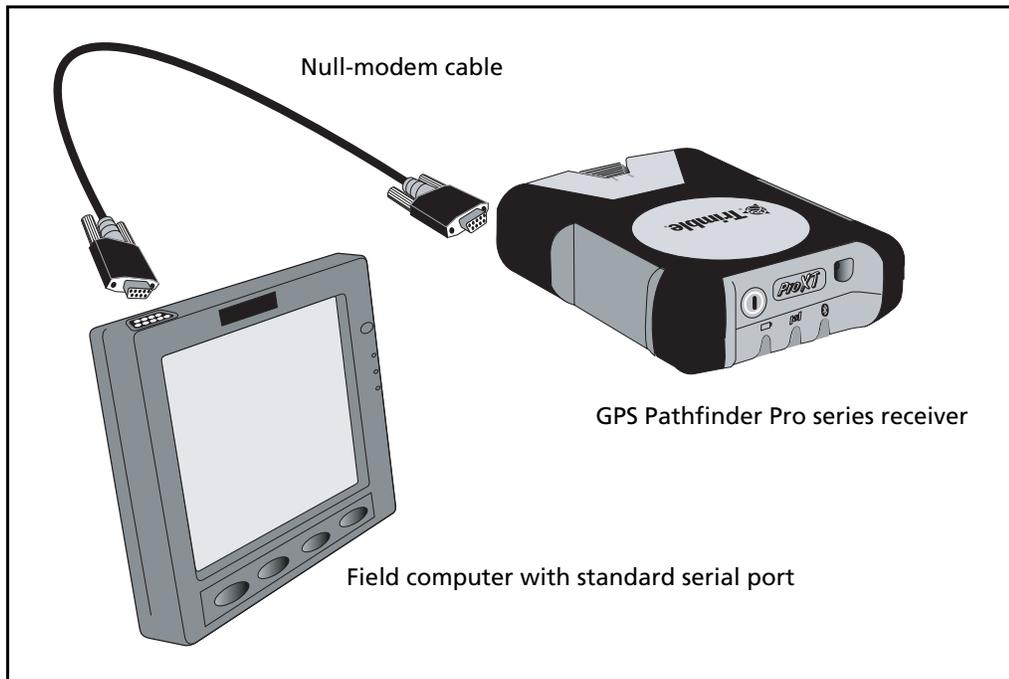
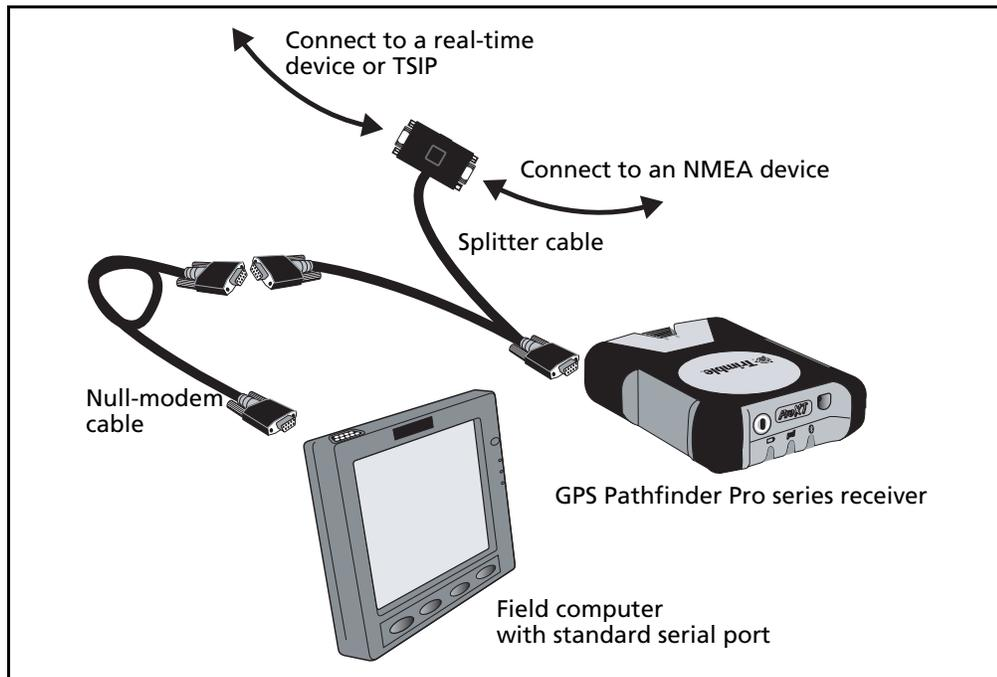

Figure 1.12 Connecting a GPS Pathfinder Pro series receiver to a field computer with a standard serial port
Figure 1.14 Connecting a GPS Pathfinder Pro series receiver to a field computer using a serial port splitter cable
2. To connect to the receiver TSIP or NMEA serial port, connect the system as shown in Figure 1.12 to Figure 1.14.